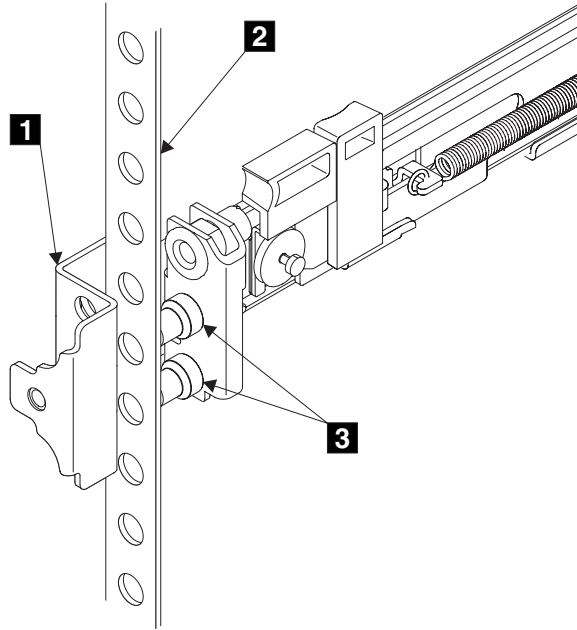

Figure 77. Installing the front end of the rail
6. Place the front end of the left rail in the rack cabinet. Align the top of the front bracket **1** (Figure 77 on page 89) with the required EIA marking that is on the rack.